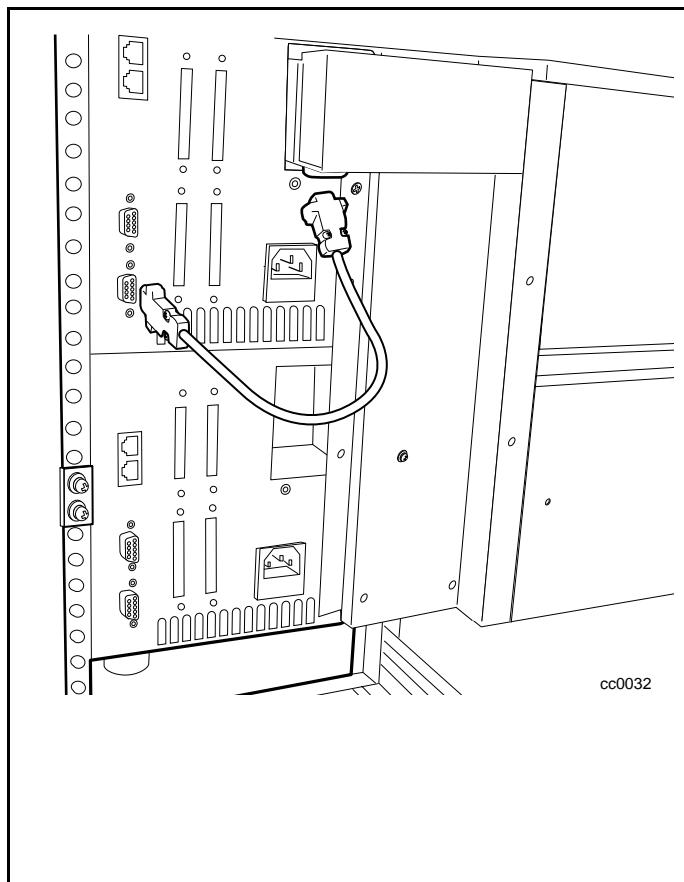

Figure C-13. Unplugging the PTM motor housing assembly control cable
2. Unplug the motor control cable from its connector on the PTM motor housing assembly (see Figure C-13).